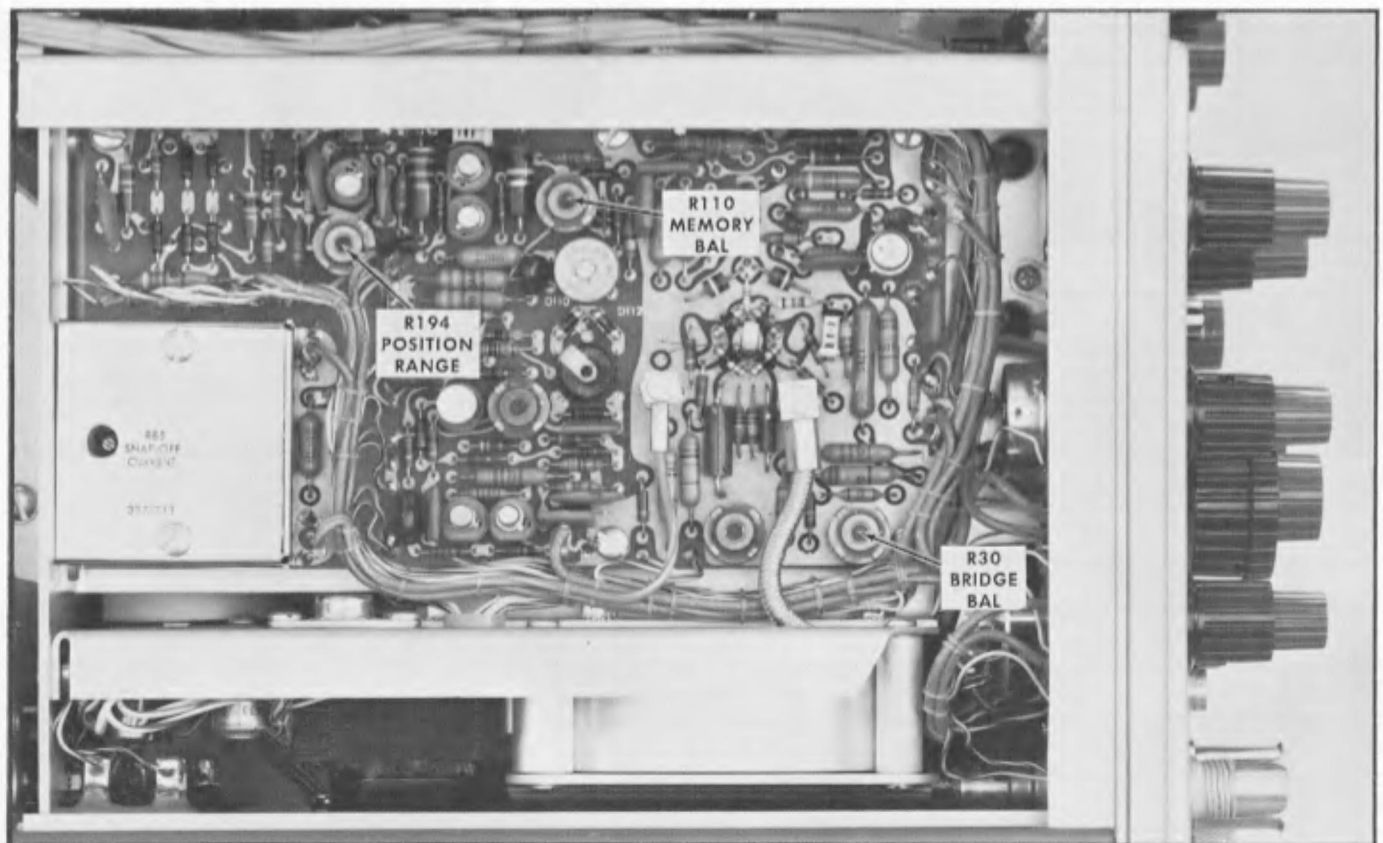

Fig. 5-27. Location of balance adjustment controls on left side of Type 1S1. (Unit is installed in indicator oscilloscope.)
e. Adjust R110 (MEMORY BAL) if operation of the SMOOTHING control is not correct. See Fig. 5-27 for the location of R110.
g. Adjust R30 (BRIDGE BAL) if operation of the switch is not correct. See Fig. 5-27 for the location of R30.
d. Adjust R194 (POSITION RANGE) to position the trace at the horizontal centerline if it was not already within  $1/2$  cm of the centerline. See Fig. 5-27 for the location of R194.